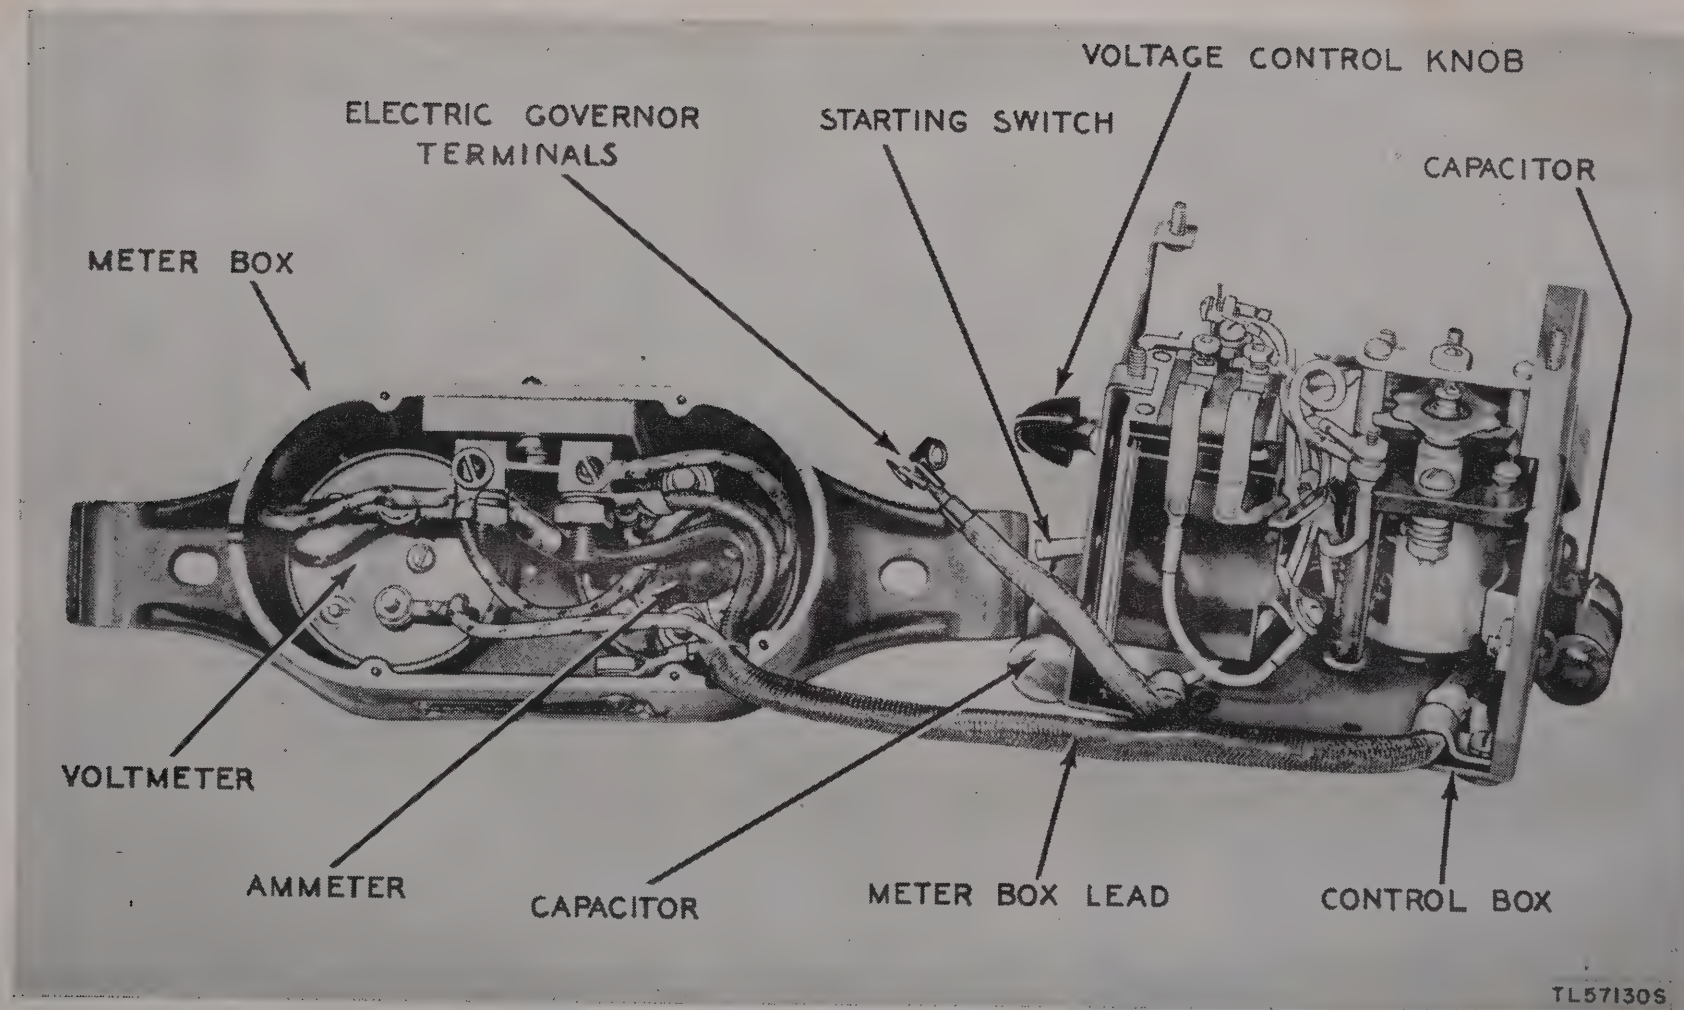

Figure 50. Control box and meter box, covers removed.
## 79. Control Box and Meter Box (fig. 50)
- b. Turn meter box bottom side up and remove bottom cover (fig. 50).